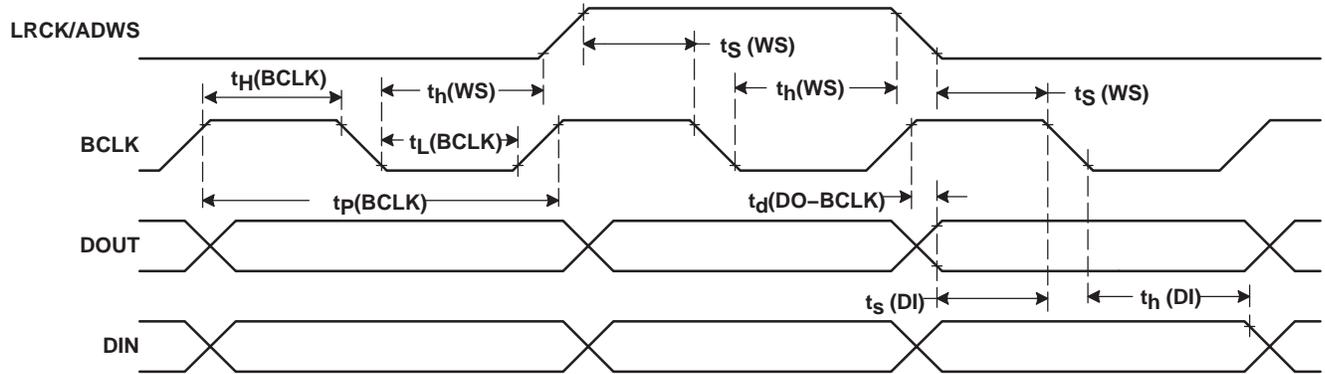

Figure 4. DSP Timing in Slave Mode
**TYPICAL TIMING REQUIREMENTS (FIGURE 4)**